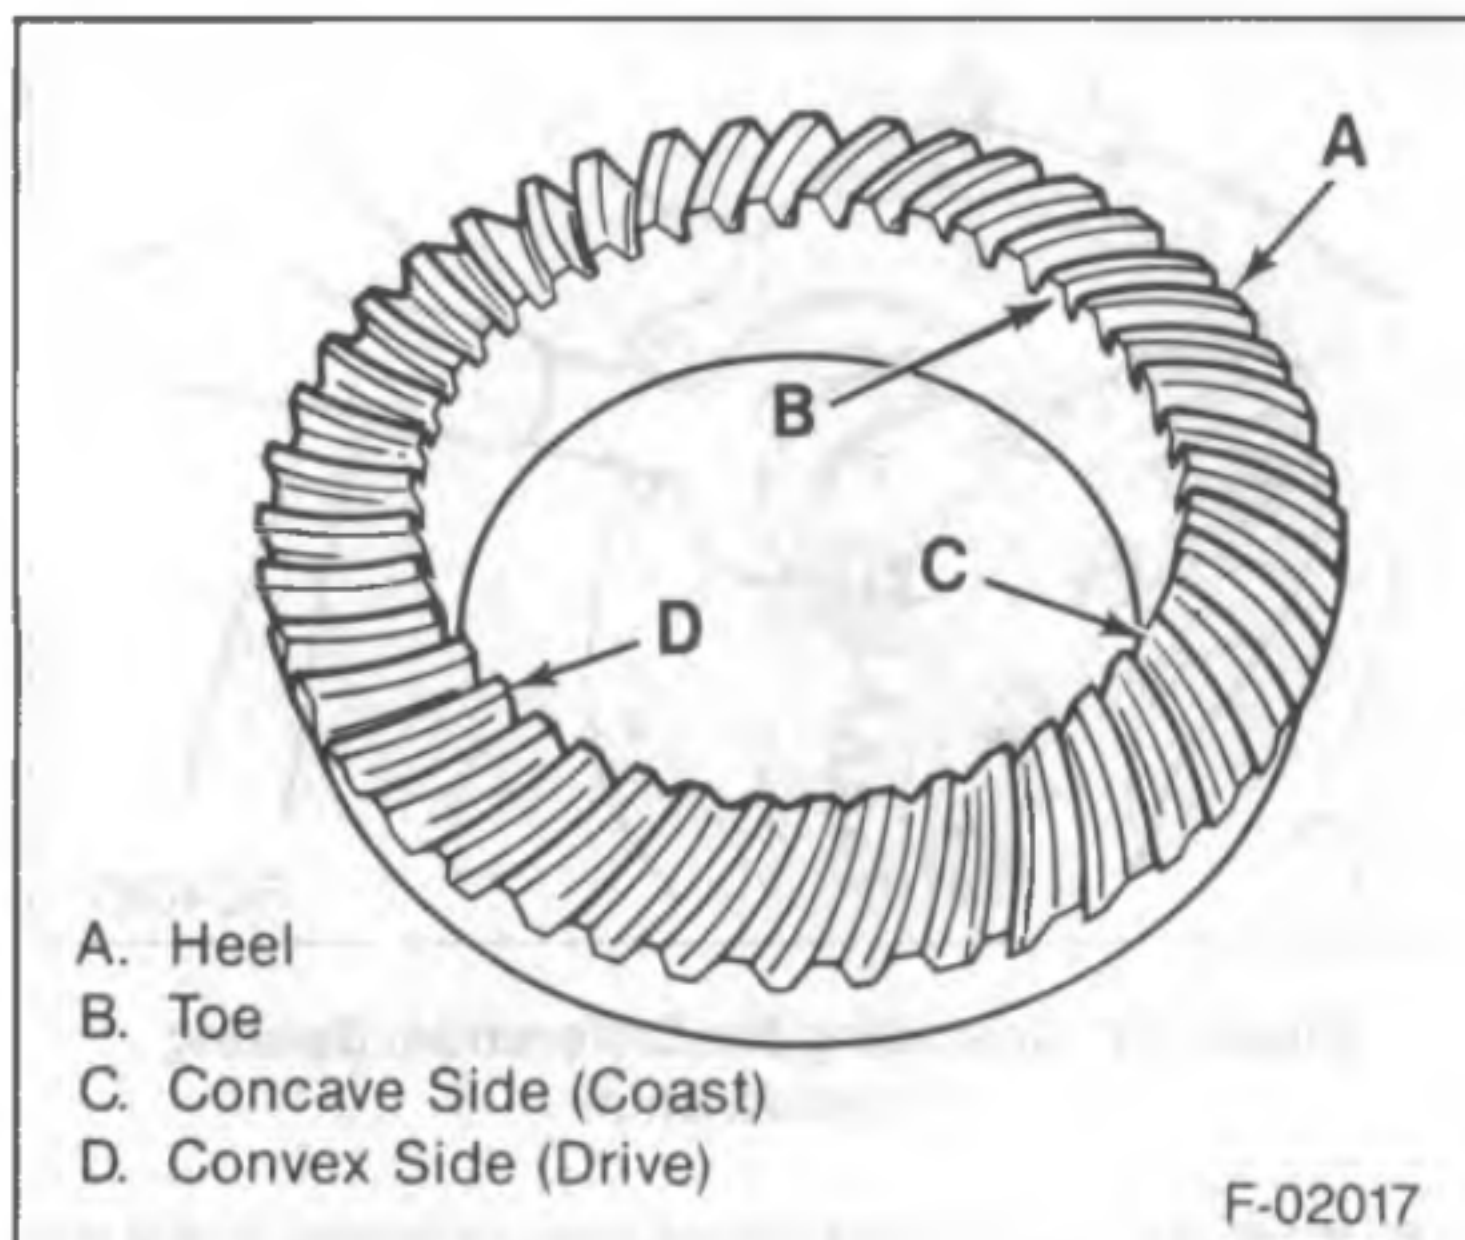

Figure 18—Gear Tooth Nomenclature
1. Wipe all oil out of the carrier, and carefully clean each tooth of the ring gear (figure 18).